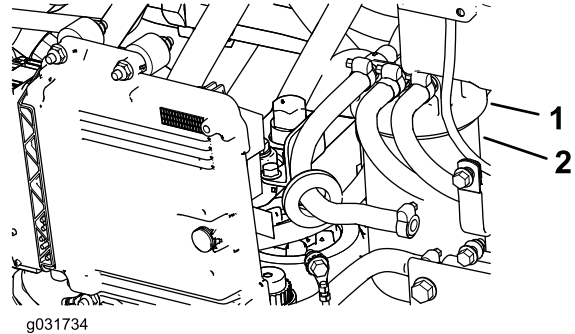

Figure 99
1. Clean the area around the fuel-filter head (Figure 99).
2. Remove the filter and clean the filter-head-mounting surface (Figure 99).